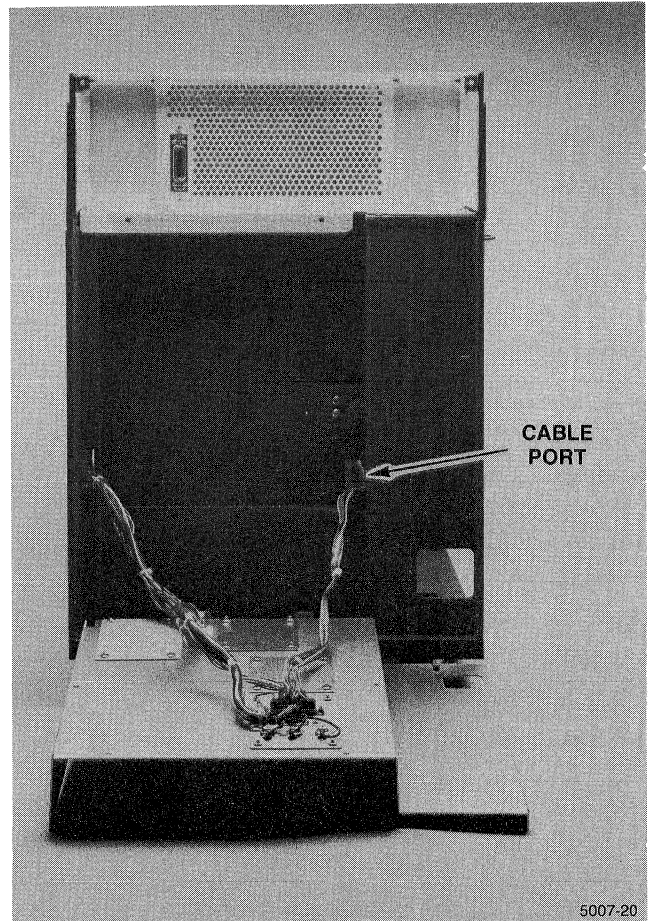

Figure 16. Cable Port.
10. Route the interface cable through the cable port and replace the rear panel (Figure 16).